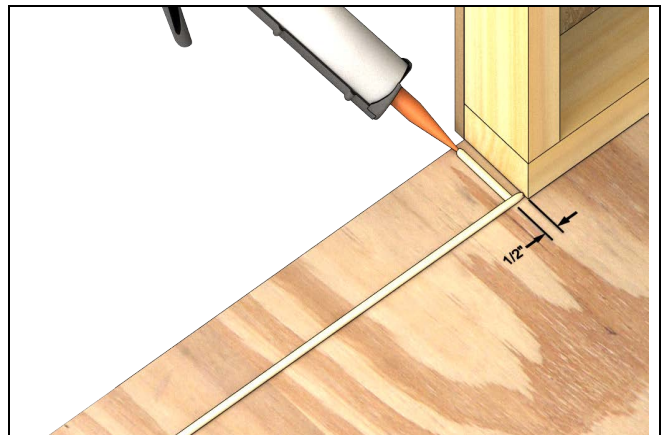

Figure 10
2. Apply a 3/8" (10) bead of sealant on the subfloor at the interior edge of the door opening. See Figure 10.